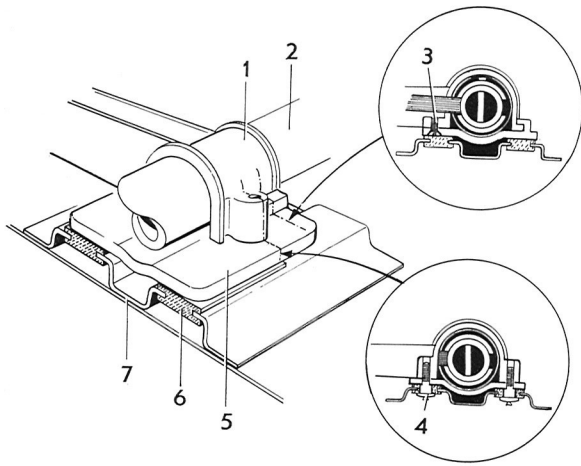

Fig. 6-52. Upper attachment
3. Drill off the collars on the shear bolts (4, Fig. 6-52). Start with a small drill and finish with, for example, a 13 mm (1/2") one. The bolt guide has a diameter of 12 mm (15/32").
4. Remove the attaching bolts and take off the left impact guard and side member (7) with slide piece (6).
5. Screw out the screw (3) and unhook the attaching plate (5).
1. Install the new steering wheel lock and the electrical part in position. Hook on the attaching plate (5, Fig. 6-52) and screw in the screw (3). Check the locking function.
2. Install the side member (7) with the slide piece (6) which must be in good condition. Install the impact guard.
3. Install the shear bolts (4) but do not shear off the heads. Install the contact piece.